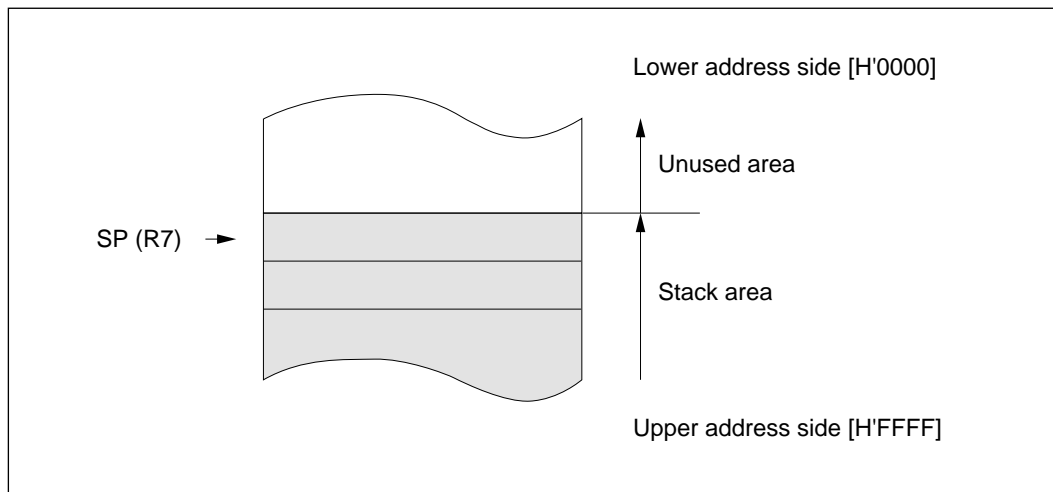

Figure 2-3 Stack Pointer
R7 also functions as the stack pointer (SP), used implicitly by hardware in exception processing and subroutine calls. When it functions as the stack pointer, as indicated in figure 2-3, SP (R7) points to the top of the stack.